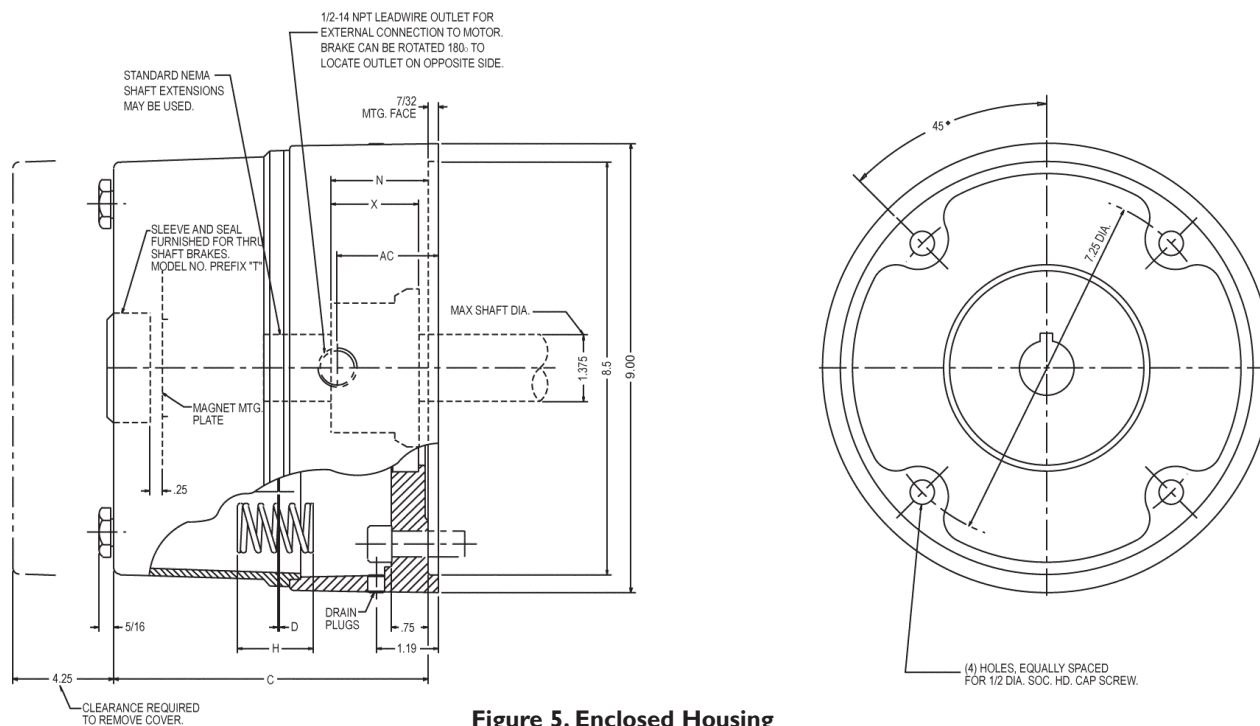

Figure 5. Enclosed Housing
1. Remove hub (22) from brake and position on motor shaft with key according to dimension "N". Stamped part number on hub should face away from motor. Tighten hub set screws with 12 lb. ft. torque.
2. Remove cover screws (17) and cover (18).
4. Bolt brake to motor "C" face with four 1/2 inch socket head cap screws. See Figures 5 and 6 for screw length thru bracket.